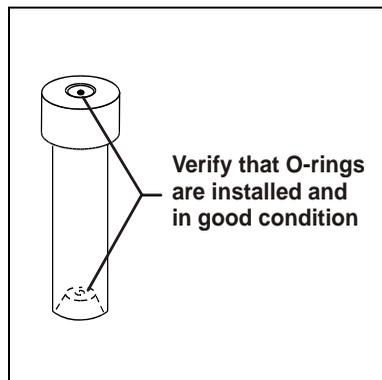

Figure 3-10. Inspecting Rinse Tube O-Rings
2. Locate the two rinse tubes (P/N 068074) provided in the Dionex ASE 350 Ship Kit (P/N 066060). Check the ends of each rinse tube to verify that the O-rings are in place and in good condition (see Figure 3-10).